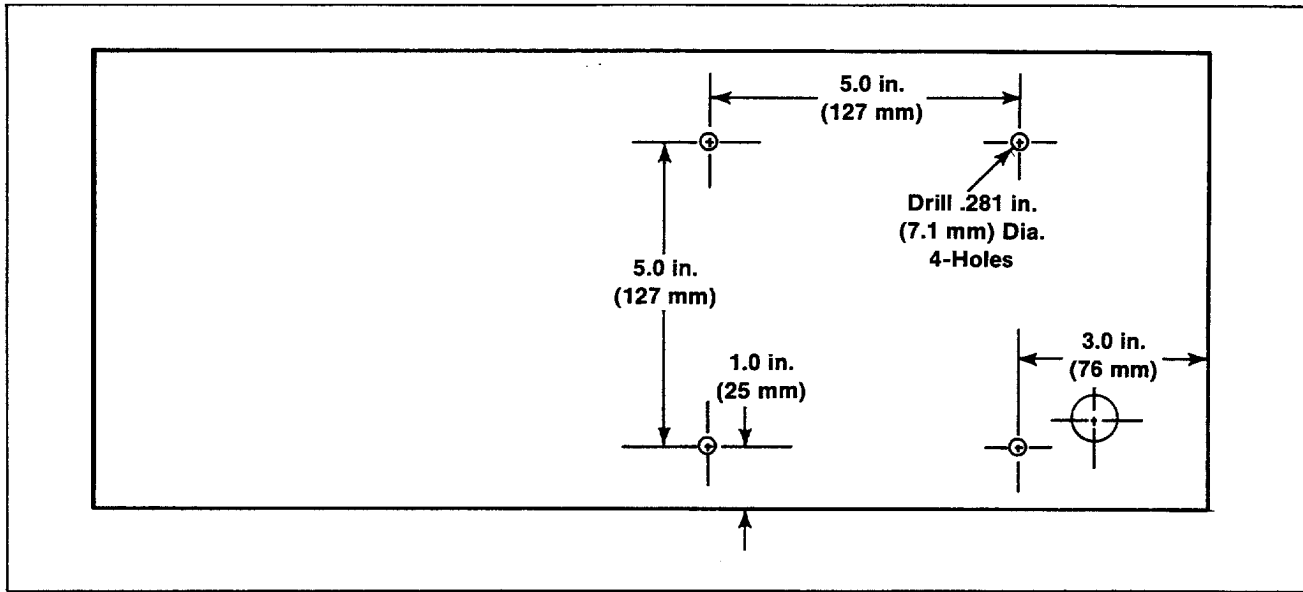

Figure 2a. Drilling Instructions for Electronic Controller
- On Dec-II controller models, remove the controller cover and drill four .281 inch (7.1 mm) dia. holes in rear panel of controller box using electronic controller as a template. See Figure 2a.